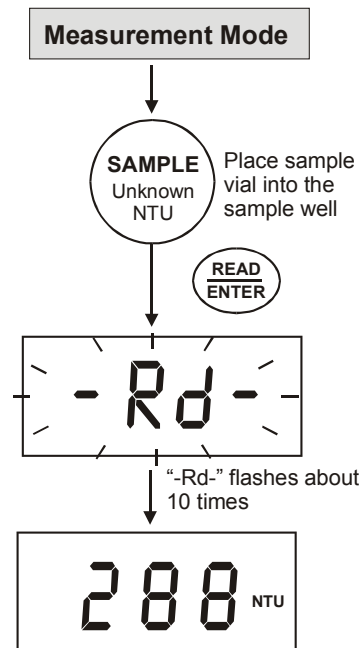

Figure 11:
6. After the power-up sequence, the meter goes to measurement mode and the display blinks "--Rd--" for about 10 times. See Figure 11.